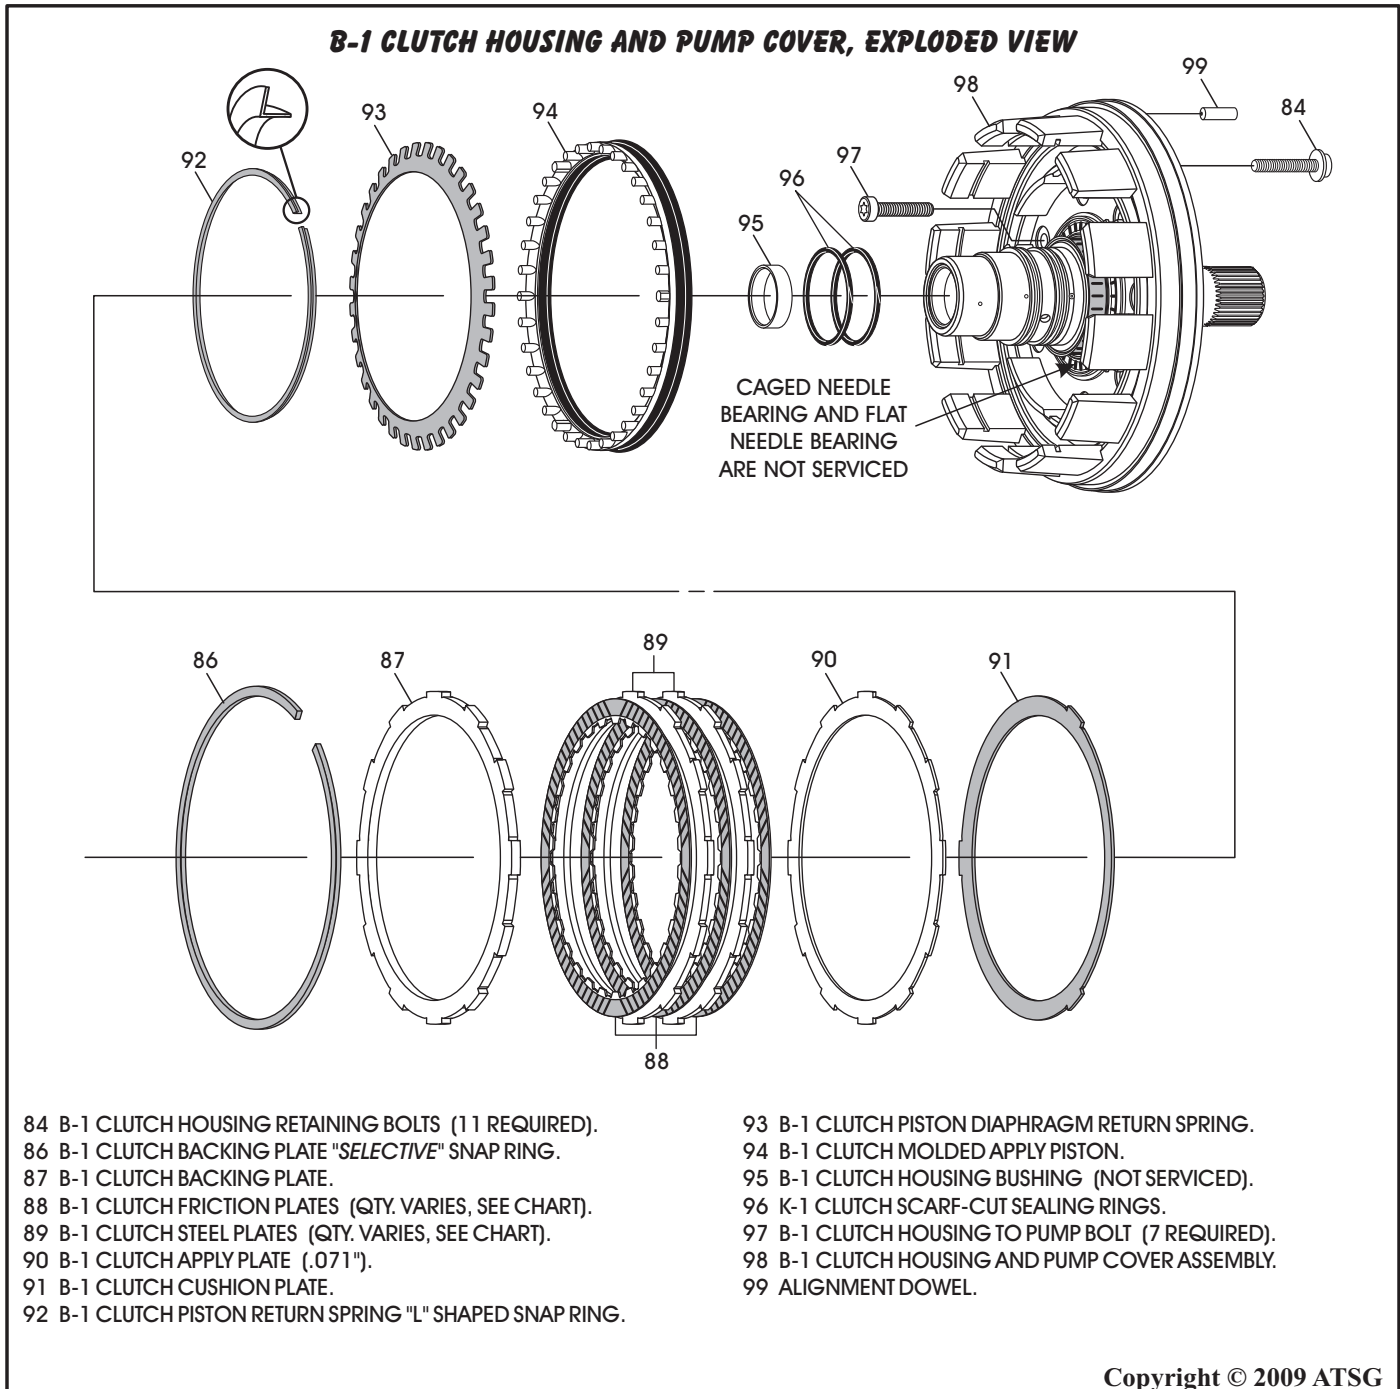

Figure 70
20. The B-1 clutch return spring is the diaphragm style, as shown in Figure 70.
21. The snap ring for diaphragm style return spring is "L" shaped, as shown in Figure 70.
23. The number one thrust bearing is located under a pressed on caged roller bearing on B-1 clutch housing, as shown in Figure 70.
Note: Neither of these bearings are serviced. If they are damaged, you must replace the B-1 clutch housing. The bushing (95) shown in Figure 70 is also not serviced.